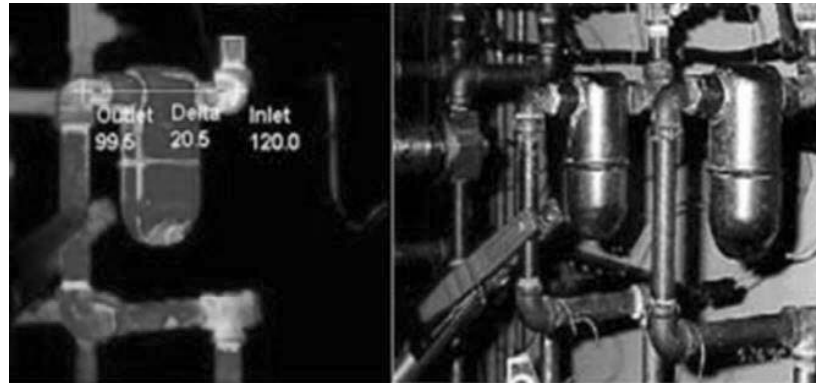

Figure A-32 Overheated winding in motor; Overheated bearing
- winding problems in motors See Figure A-32
- overheated bearings See Figure A-32
check the relative temperature across the trap from the inlet to the outlet. Figure A-32 shows a delta temperature of 20 degrees.